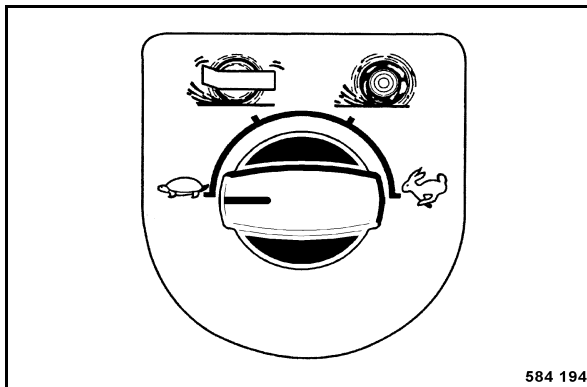

Fig. 63
- Turn the rotary travel speed range switch (Fig. 63) to position "turtle".